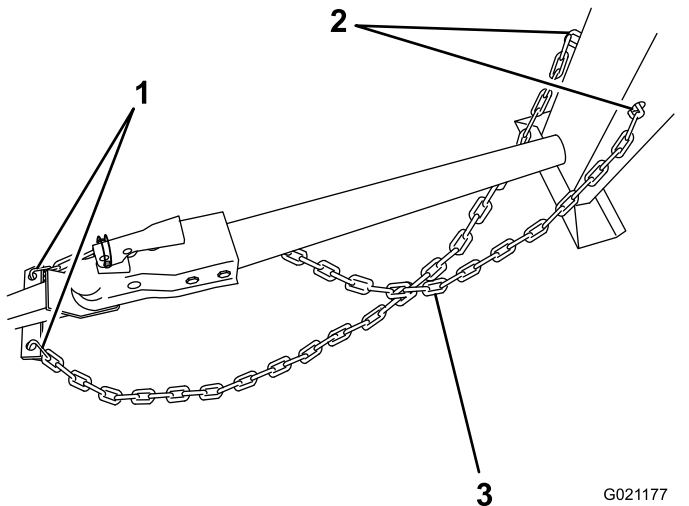

Figure 18
1. Pull the safety chain through the slots in the keyholes located in the front post of the machine, so that there is just enough slack on each side for turning around corners when towing the machine Figure 18.